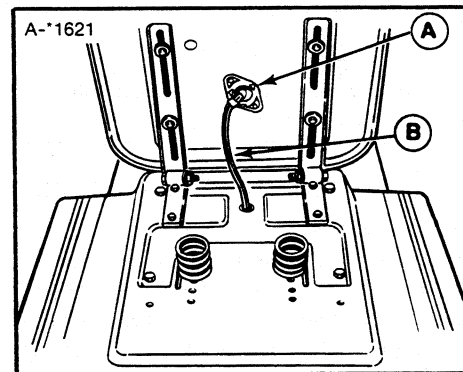

Figure 7B.
Your tractor is equipped with a seat switch (A, figure 7B) every fall and spring with the following three tests. Make sure the wiring harness (B) is securely plugged into the switch.
Check the seat switch (A, figure 7B) every fall and spring with the following three tests. Make sure the wiring harness (B) is securely plugged into the switch.